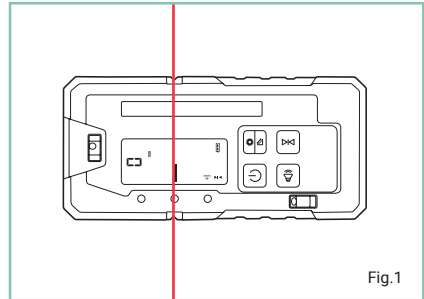

Fig.1
- Move the detector into the path of the beam. Hold the detector upright for horizontal beams or rotate 90° for vertical beams (Fig.1).